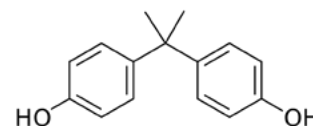

Figure 6: The chemical structure of Bisphenol A (BPA)⁶.
Plastic factories are industrial facilities where various plastic products are manufactured through the processing of plastic resins and other raw materials. These factories produce a wide range of plastic products that serve numerous purposes in our daily lives, like toys, storage containers, automotive components, and filament for 3D printing. One chemical often used in the manufacture of plastic is Bisphenol A (BPA), a synthetic chemical compound present in polycarbonate plastics (Figure 6). It was widely used in consumer products, including plastic water bottles, food storage containers, and the lining of canned goods. Over time, these plastics can break down, especially when exposed to heat, sunlight, or acidic or basic conditions. When this happens, BPA can leach into the surrounding environment, including water. BPA pollution is a cause for concern because it is an endocrine-disrupting chemical, which means it can interfere with hormone systems in both humans and aquatic life. It has been associated with various adverse health effects, including reproductive and developmental issues. Recently, BPA has been detected in water samples, aquatic organisms, and even drinking water supplies.
6. Figure 6 Darkness3560, Public domain, via Wikimedia Commons